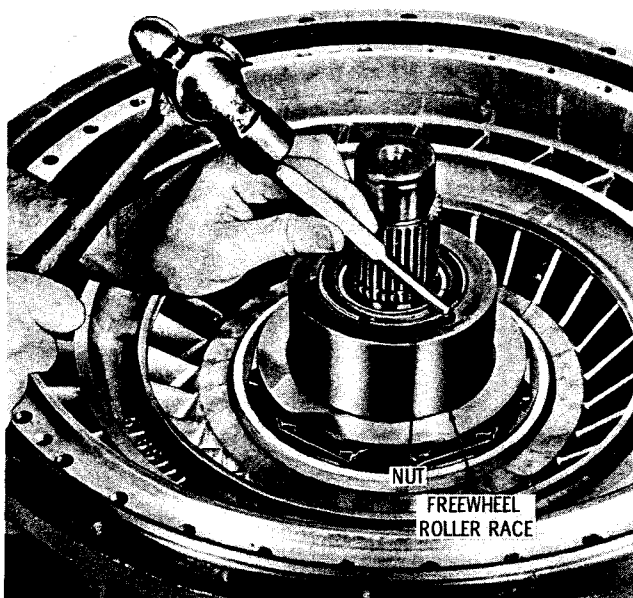

Fig. 7-39. Staking spanner nut
(17) Deform the thin outer lip of the spanner nut into one of the recesses in the freewheel roller race (fig. 7-39).